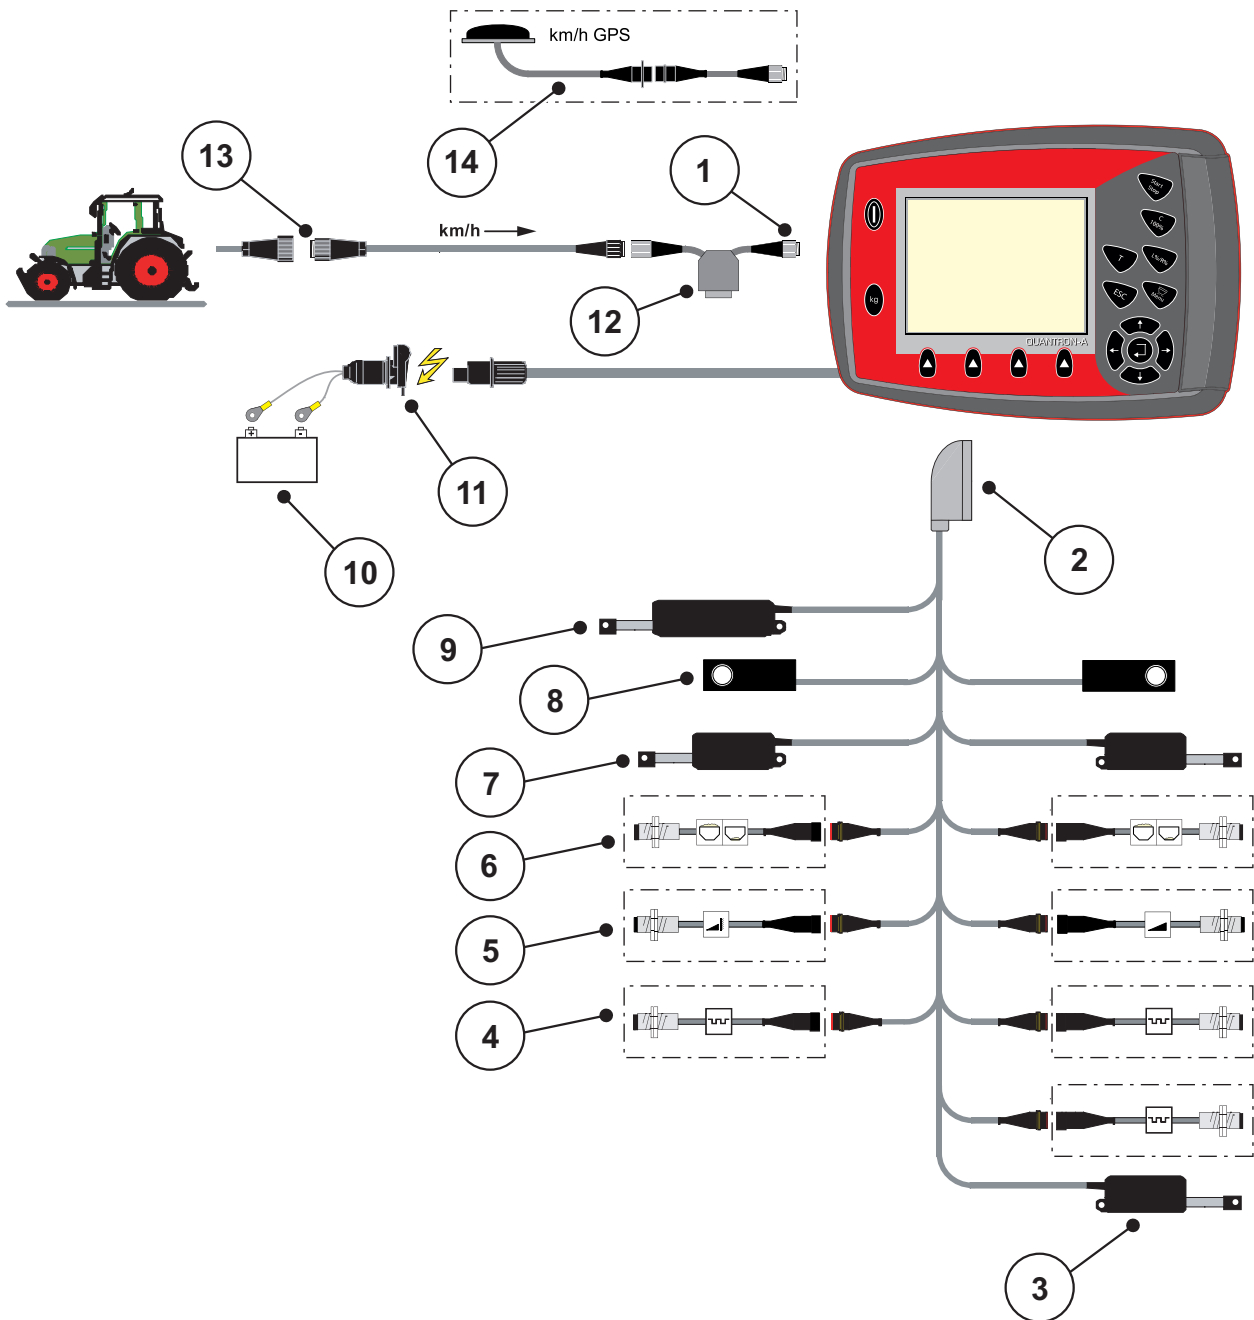
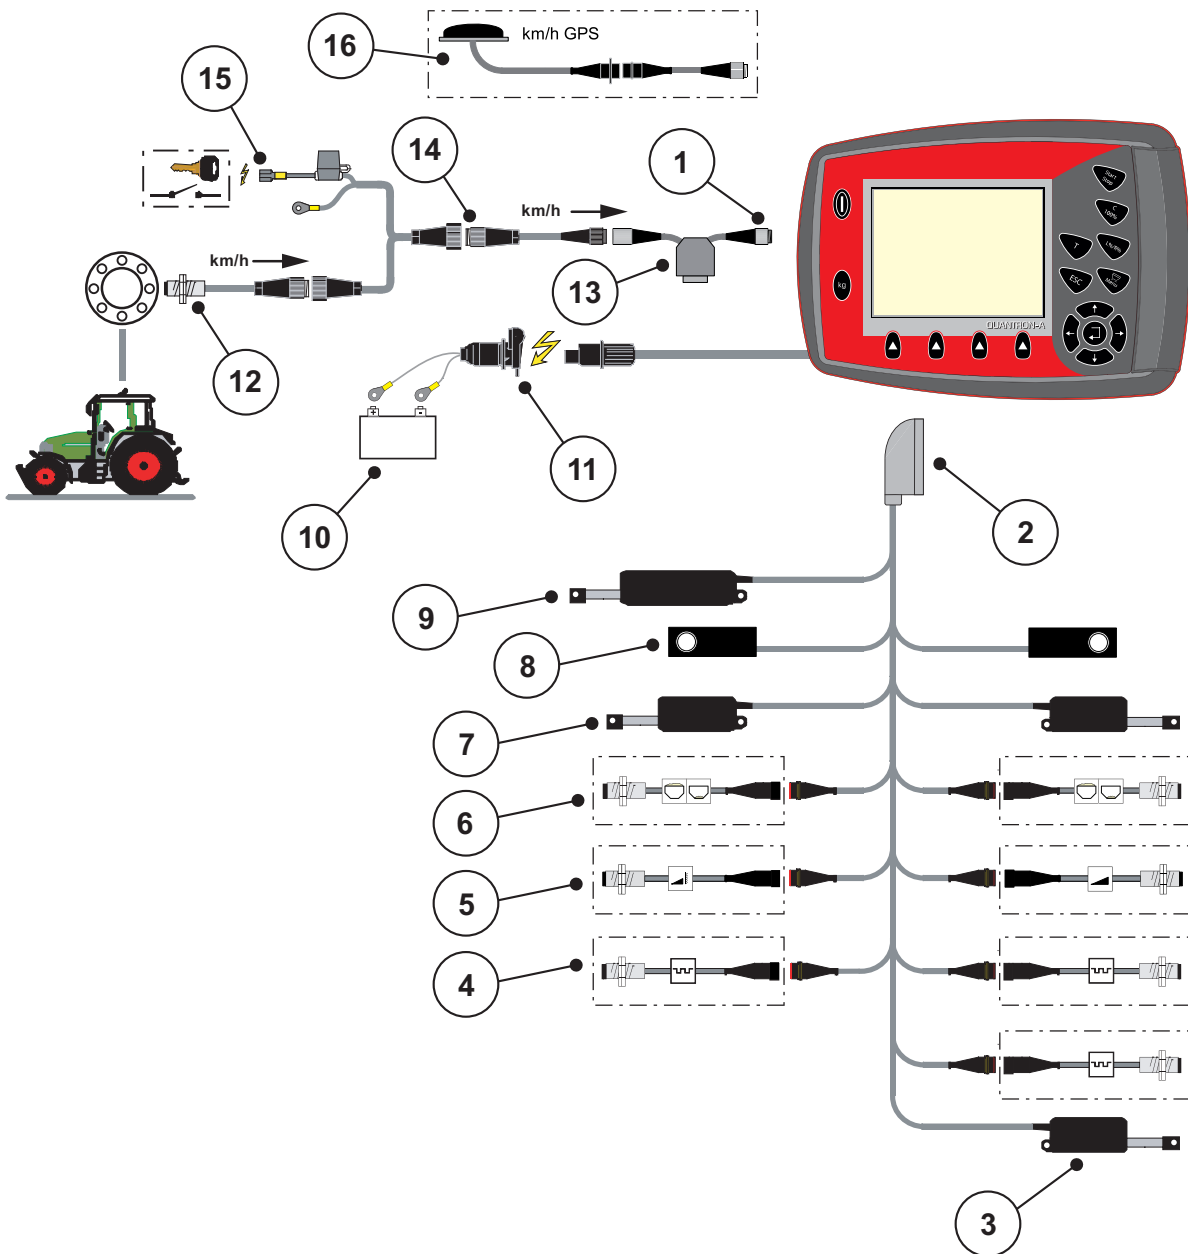

Figure 3.3: Schematic connection diagram QUANTRON-A
Figure 3.5: Schematic connection diagram QUANTRON-A
- Connect the control unit to the 7-pin socket or to the forward speed sensor (depending on the equipment, see Figure 3.3 to Figure 3.5).